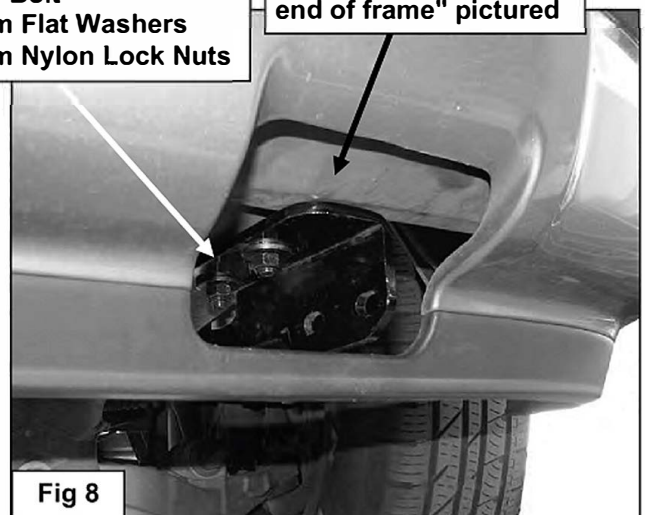

Fig 8
- b. Hold the driver side Bracket up in position with the slotted end toward the rear. Secure the Bracket to the U-Bolt with (2) 10mm Flat Washers and (2) 10mm Nylon Lock Nuts, **(Figure 8)**.